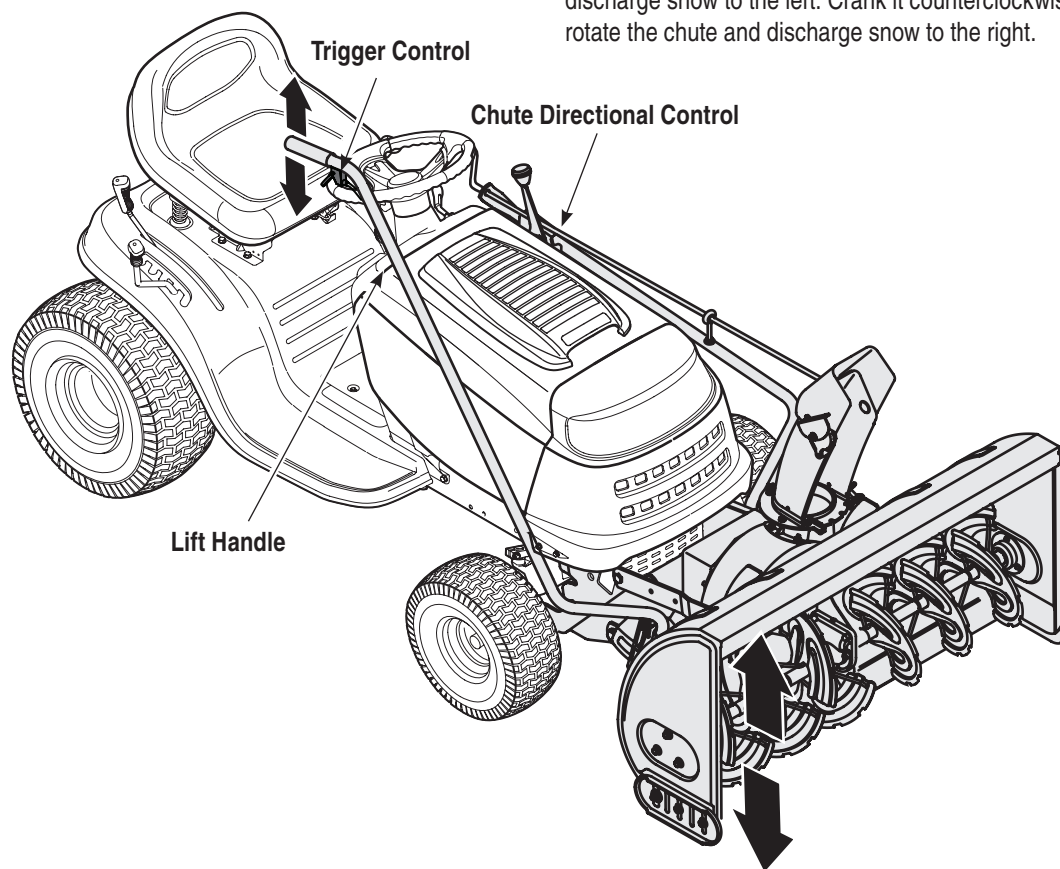

Figure 9-1
1. To raise snow thrower attachment off of the ground, pull rearward and down on the lift handle until you feel the lift latch on the right side of the snow thrower engage, locking the snow thrower in a raised position See Figure 9-1.